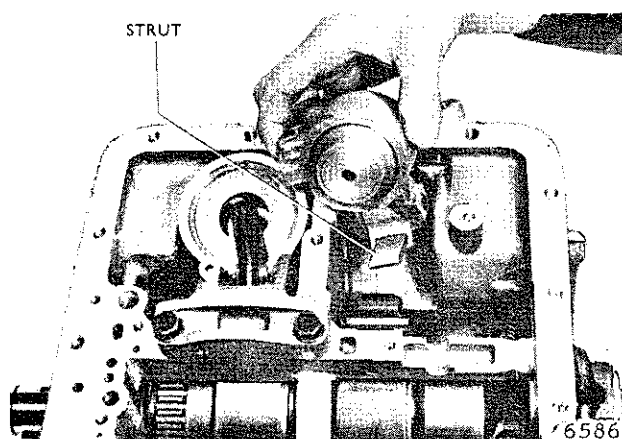

Fig. 53—Installing the front servo assembly (typical view)
(1) Attach the strut to the front servo lever using petroleum jelly positioning the strut to obtain correct assembly of these components. (Refer Fig. 53).
(2) Install the retaining bolts, note the rear bolt is the longer and tighten evenly to 14-20 Nm (10-15 lbs. ft.) torque.